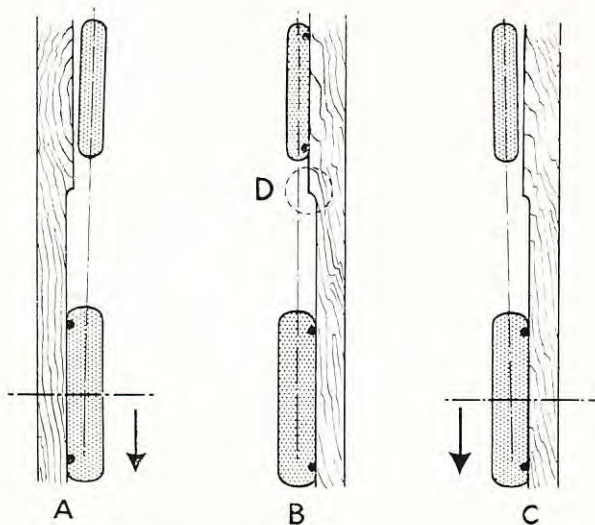

FIG. F12. *Checking alignment.*
If the tyres are the same size and the wheels in alignment, the straight-edge will be touching the tyres at four points on each side as in (B) Fig. F12.